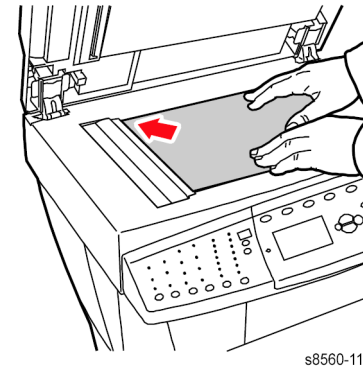

Figure 2 Scanning the Scanner Calibration Page
5. Place the Scanner Calibration page on the platen with the top edge to the left as shown in Figure 2.